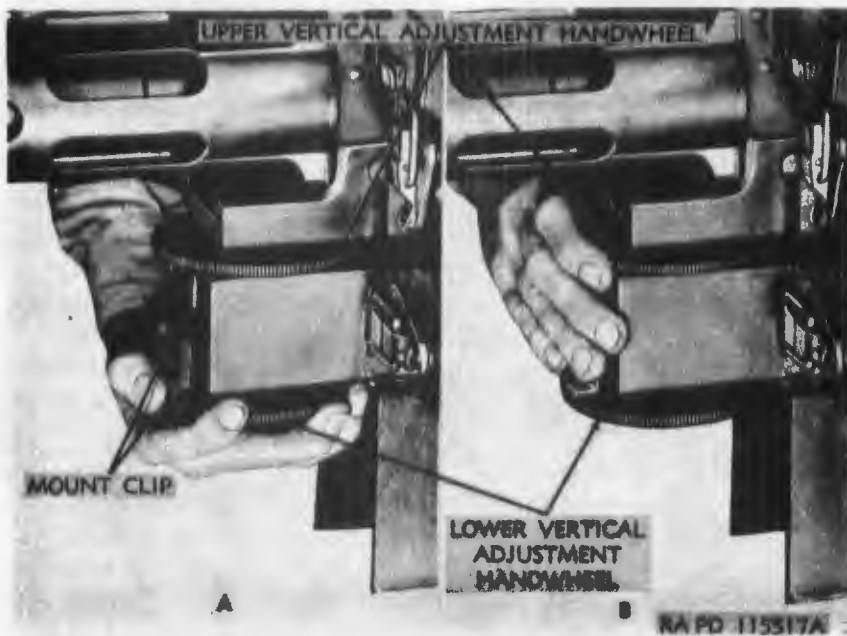

Figure 385. Adjusting subcaliber gun in elevation.
- (3) Sighting through the bore of the cal.50 machine gun barrel aline the gun with the same aiming point used in boresighting.
- (a) To adjust the subcaliber gun in elevation remove the cotter pins which lock the upper and lower vertical adjustment handwheels (fig. 385) to the mount clips. Loosen the lower vertical adjustment handwheel (A, fig. 385) several turns and adjust the upper vertical adjustment handwheel (B, fig. 385) until the correct elevation is obtained. Tighten the lower handwheel and install the cotter pins through the handwheels and mount clips (fig. 385).